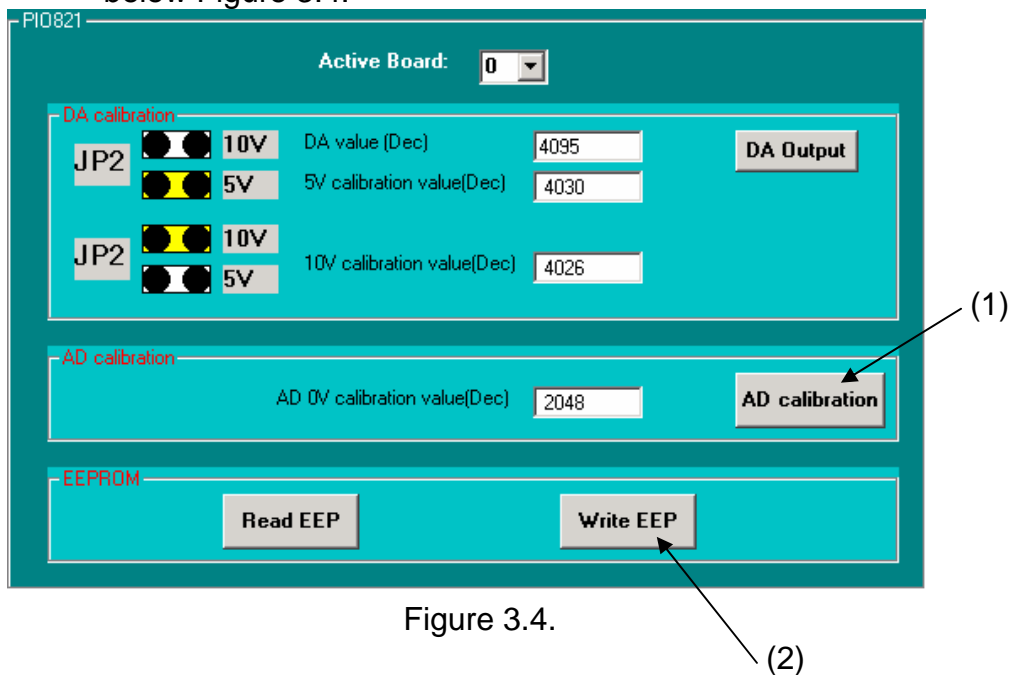

Figure 3.4.
- Step 2. (1) Click the "AD calibration" button to write the value of the analog input channel 0 into the text field of the "AD calibration value". (2) Click the "Write EEP" button to save the calibration data into the EEPROM to finish the calibration process, as below Figure 3.4.